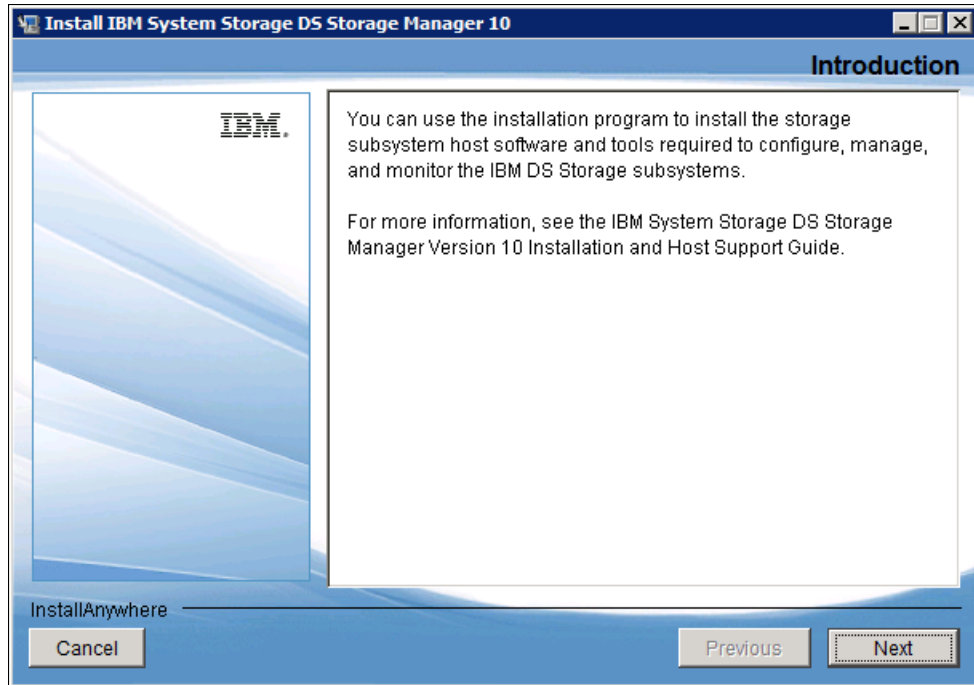

Figure 4-3 IBM DS Storage Manager Introduction
3. Read the introduction and click **Next**, as shown in Figure 4-3.